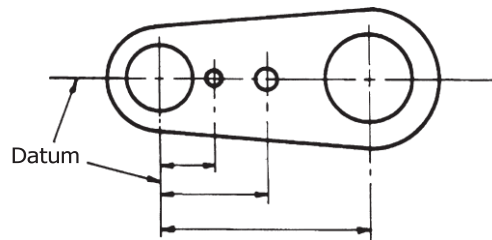

Fig Q3c Bracket
- c) The plate shown in Figure Q3c has been cut out 2 mm oversize on length and width and has not been filed. All four sides have sawn edges.